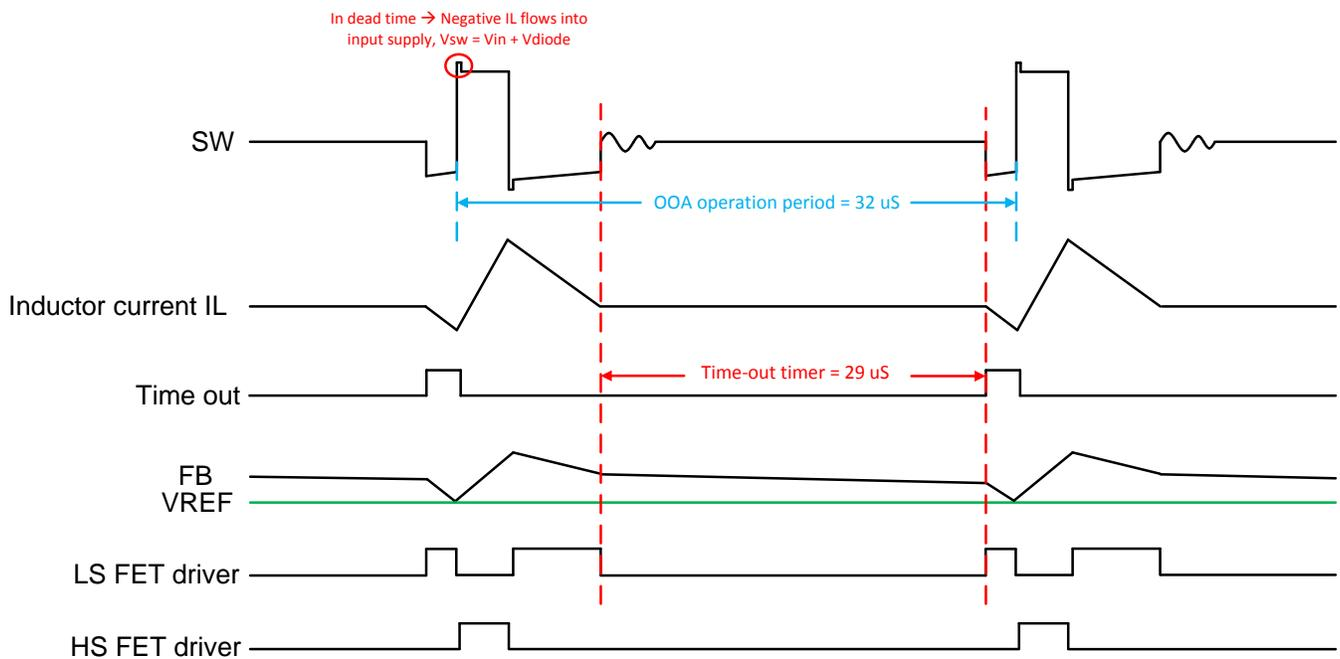

Figure 2. OOA Operation Process
OOA control circuit monitors the state of high-side and low-side FETs. There is 29 μs (typical) OOA time-out timer that starts when inductor current drops to 0 A, triggering Zero Crossing (ZC). If both high-side and low-side FETs are in the OFF state for a period longer than 29 μs, the low-side FET turns on to discharge output voltage until FB voltage drops below reference voltage to initiate the high-side FET ON. In other words, TPS566235 changes the operation mode to FCCM automatically when high-side and low-side FETs are OFF longer than 29 μs. Figure 2 shows the detailed OOA operation process.